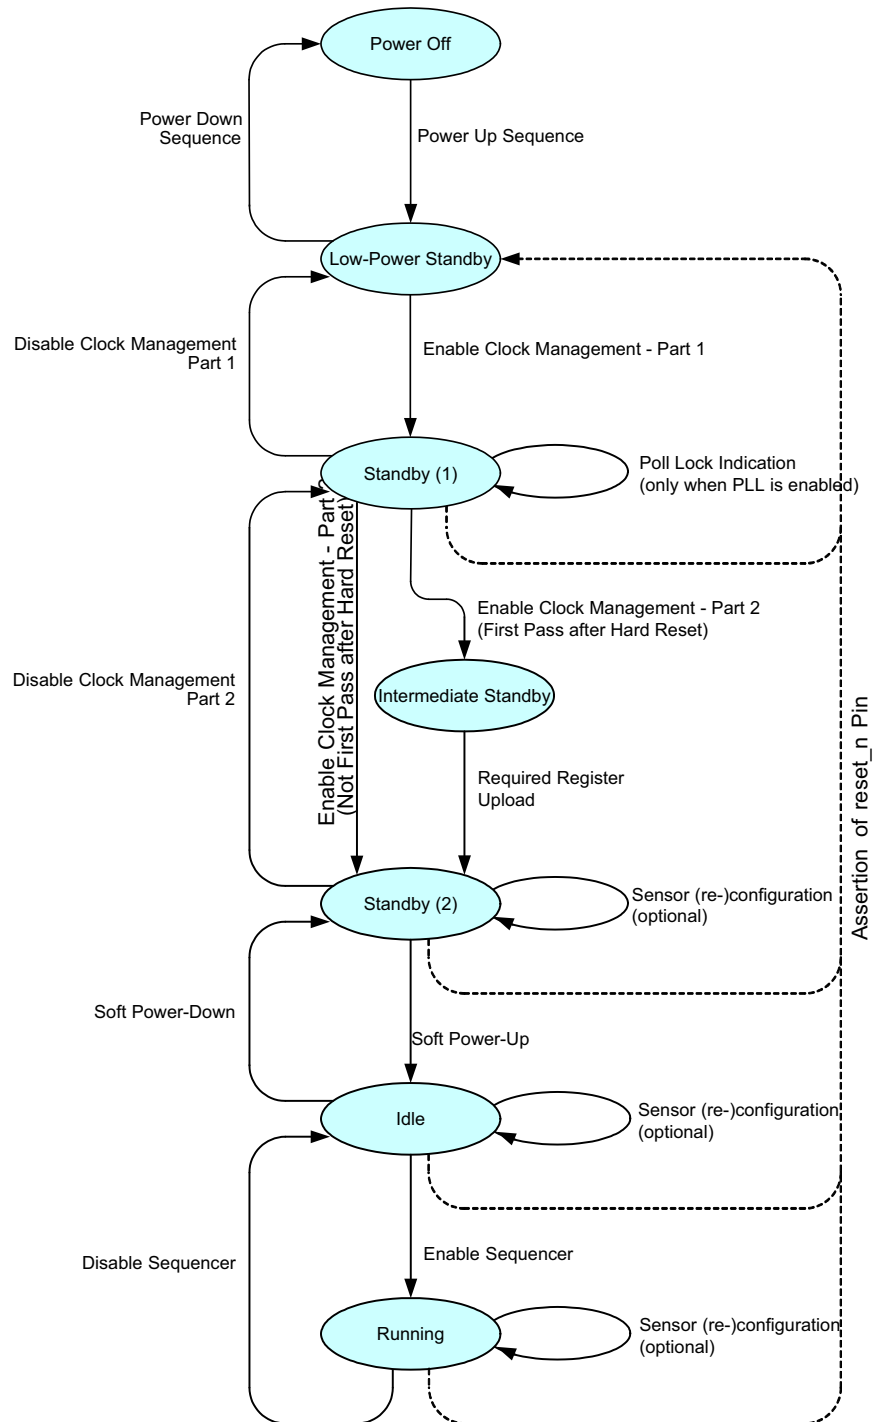

Figure 17. Sensor Operation Flowchart
Figure 17 shows the sensor operation flowchart. The sensor has six different ‘states’. Every state is indicated with the oval circle. These states are Power off, Low power standby, Standby (1), Standby (2), Idle, Running.